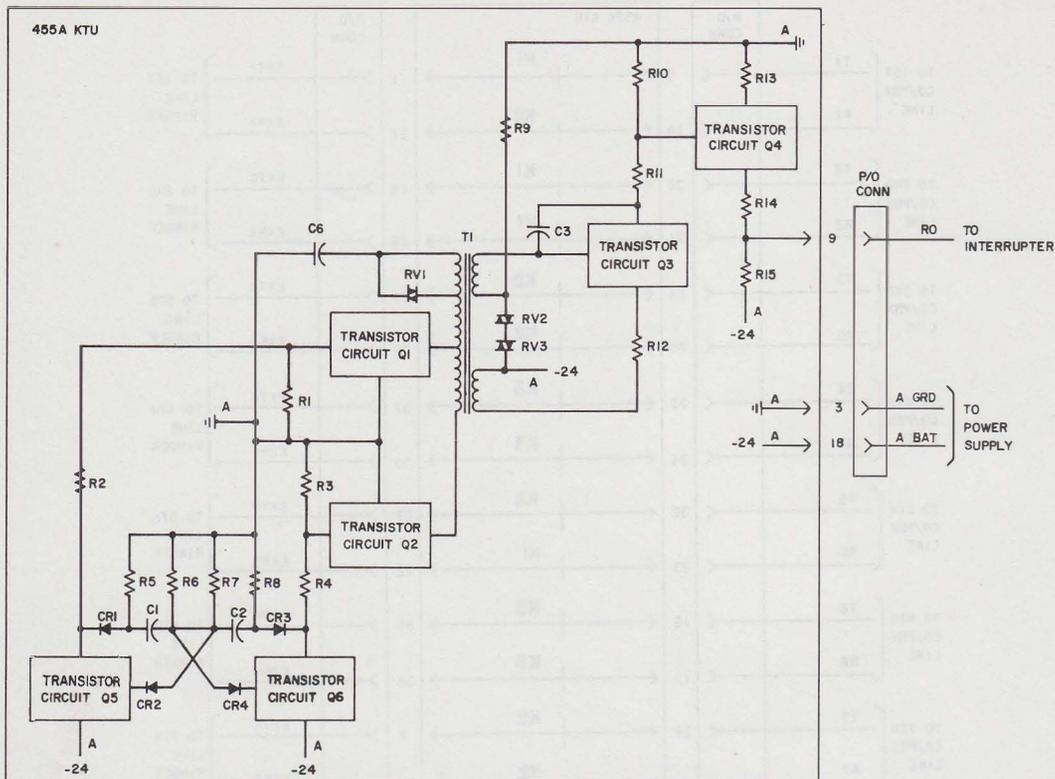

Fig. 17—Condensed Functional Schematic of 455A KTU (Tone-Ringing Signal Generator Circuit)
2.23 The 455A KTU (Fig. 17) is a 4-inch unit that contains the tone ringing generator for CO/PBX signaling.